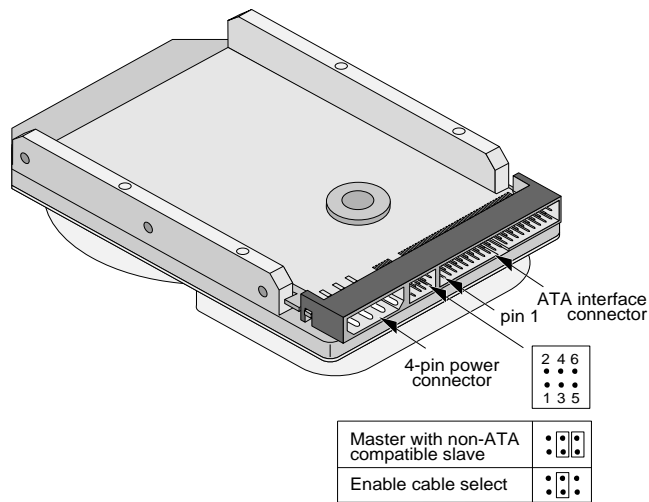

Figure 5. Non-ATA compatible and cable select jumpers
If your computer does not recognize your new drive as a master in a two-drive system, the slave drive may not be ATA-compatible. You may be able to solve this problem by installing jumpers on pins 3 and 4 and on pins 5 and 6, as shown in Figure 5.
Some computers differentiate between master and slave drives using specially designed interface cables that have the line to pin 28 (the Cable Select pin) removed or cut at one connector. The connector that has pin 28 disabled is used for the slave drive. See your computer manual to determine whether your computer supports this feature. To configure your Seagate drive for cable select, place a jumper on pins 3 and 4 as shown in Figure 5.
- If the drive is to be the master drive with a non-ATA-compatible slave, set the jumpers on the drive as shown in Figure 5 on page 17.